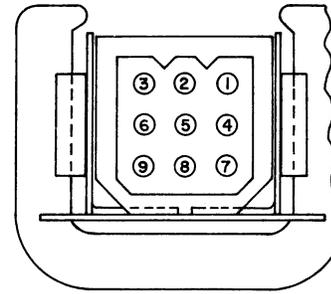

Fig. 20— Interface Connector
3.12 The connector (Fig. 20) is the electrical connection from the KD or 40K001/004 ROP opcon that interfaces to the controller.